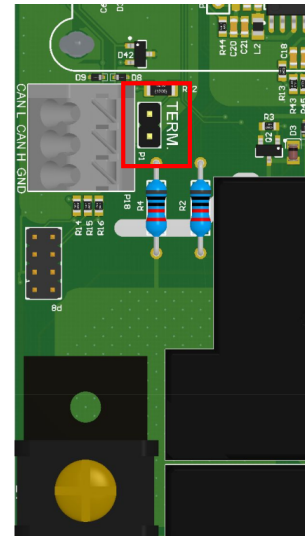
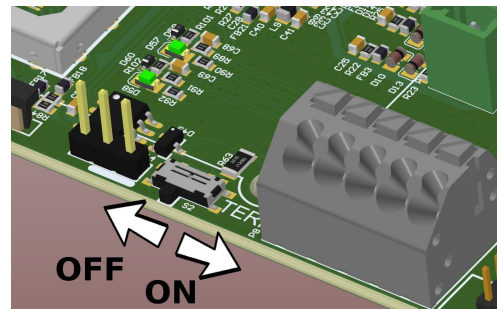

Fig. 25: The place of applying the terminating jumper (variant A)
Fig. 26: The place of applying the terminating jumper (variant B)
4. Use termination for devices at the beginning and end of the network. In case of variant A place terminating jumper on the marked headers [Fig 25]. In case of variant B termination is done by slide the switch down, to show white square. In alternate version, if there is no switch, place a jumper on two pins in the header inside the charger marked by white line [Fig. 26].